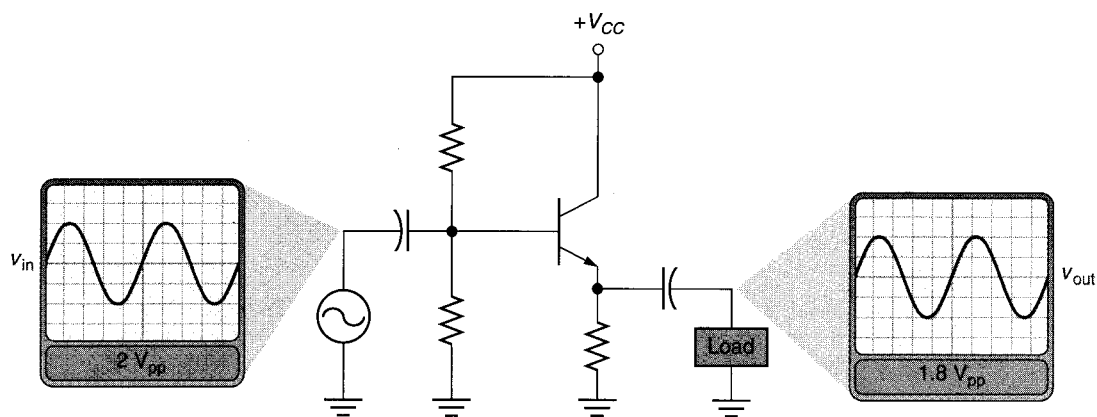

FIGURE 8.14 Common-collector (CC) amplifier.
The *common-collector (CC) amplifier* is another widely used BJT amplifier. A typical CC amplifier is shown in Figure 8.14. As you can see, the input is applied to the *base* of the transistor, and the output is taken from the *emitter*. In this case, it is the *collector* terminal of the transistor that is part of both the input and output circuits and provides the ac ground (or common).
For reasons discussed in Chapter 10, the voltage gain of the CC amplifier is slightly less than *unity* (1). If we were to assume that  $A_v = 1$  for a CC amplifier, the output waveform would be identical to the input waveform, as shown in Figure 8.14.